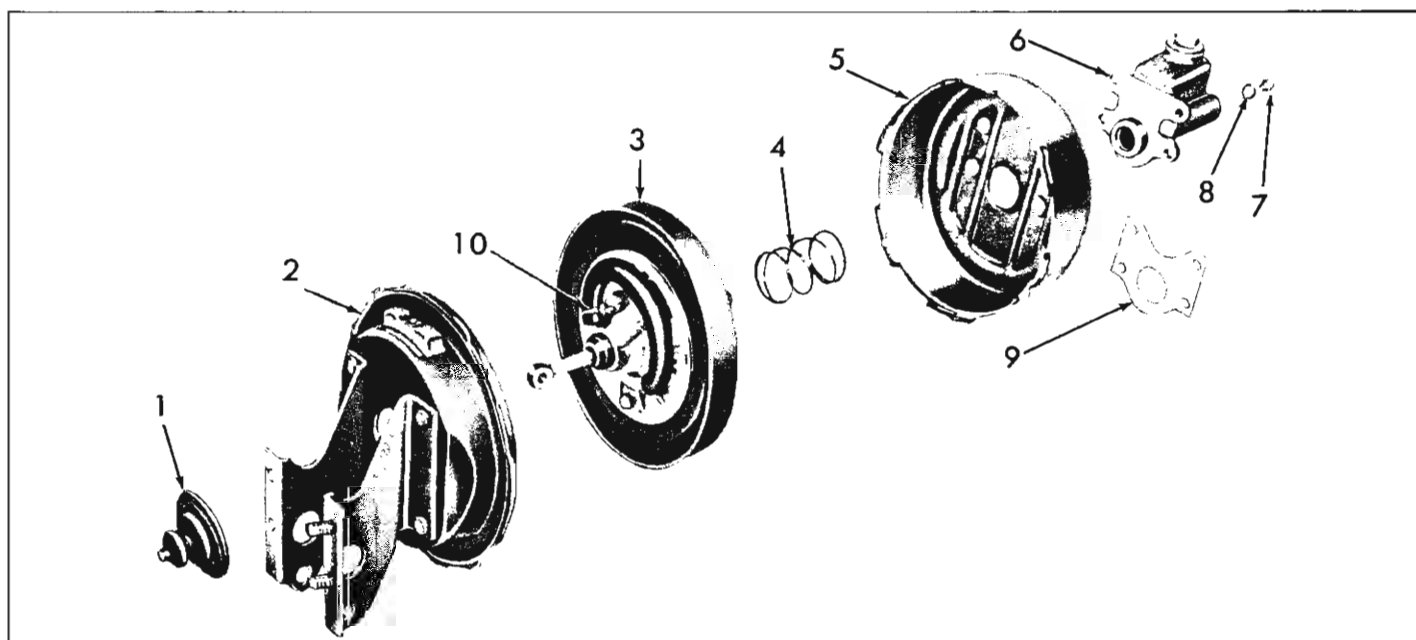
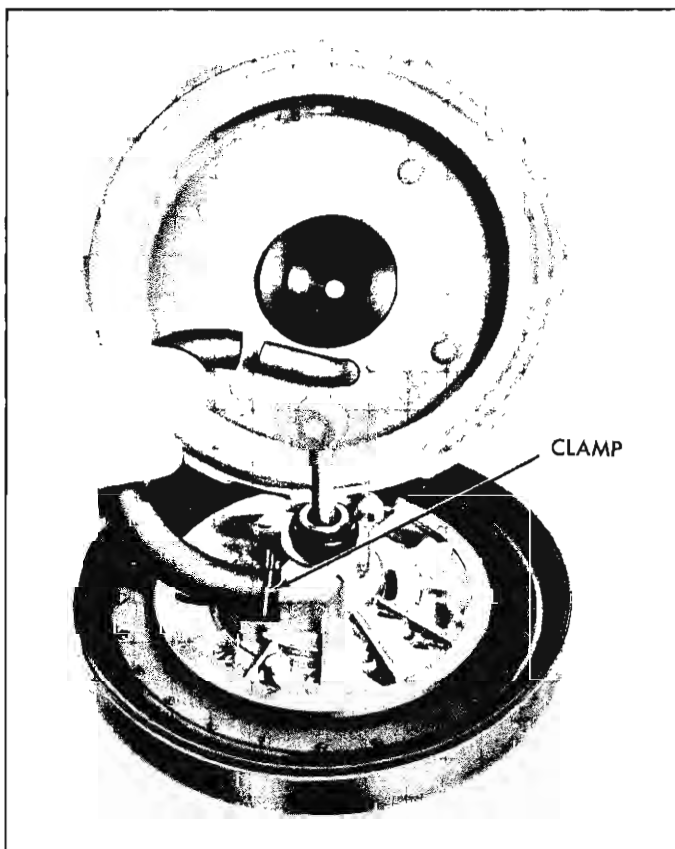
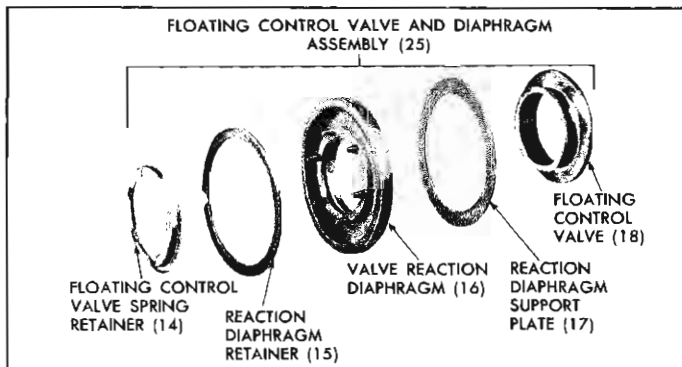
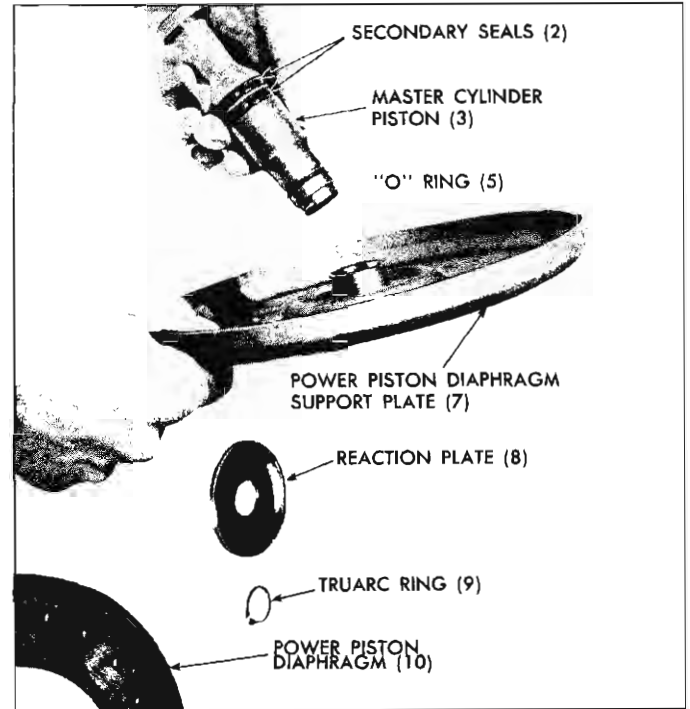

Fig. 41—Component Exploded View
Fig. 42—Power Piston and Rear Shell Disassembly
Fig. 47—Floating Control Valve and Reaction Diaphragm
Fig. 48—Master Cylinder Piston and Power Piston Diaphragm Support Plate Disassembly
shell (2, fig. 41) so that the rear shell can be rotated counterclockwise, to separate the rear shell from the front shell (5).
2. Now the power piston assembly (3) and the rear shell can be lifted from the unit.
3. Remove the power piston return spring (4) from the front shell.
4. Pull the push rod through the boot and remove the exhaust hose from the exhaust tube on the rear shell. Figure 42.
6. Remove the four nuts (7, fig. 41) and lockwashers (8) from the studs.
**NOTE: Count and remove shims (9) located between the housing and the master cylinder.**
7. From the rear shell assembly, remove air filter screw (5, fig. 47), cover (6), and filter element (7).
8. Remove two screws (2) from the exhaust tube bracket (1) and free the exhaust tube assembly and gasket (3).
14. From the floating control valve and diaphragm assembly remove the spring retainer (14, fig. 47).
16. Remove the retaining ring (9) from the master cylinder piston (3). Remove the reaction lever plate (8) from the master cylinder piston and press the master cylinder piston assembly through the piston diaphragm plate, Figure 48.
4. Slip "O" ring (5) into the second groove from the counter-bored end of master cylinder piston. Lubricate "O" ring (5) on master cylinder piston with silicone grease—"A" and insert the piston into the piston diaphragm plate from the flange side, Figure 48.
5. Place the reaction lever plate (8), with raised rim away from piston diaphragm plate (7), over piston and install snap ring (9) in groove (3).
7. To assemble the floating control valve and diaphragm assembly (fig. 47), place the reaction diaphragm support plate over the hub of floating control valve. Assemble reaction diaphragm over flanged hub of control valve so the flange fits into the groove on the inside diameter of the diaphragm.